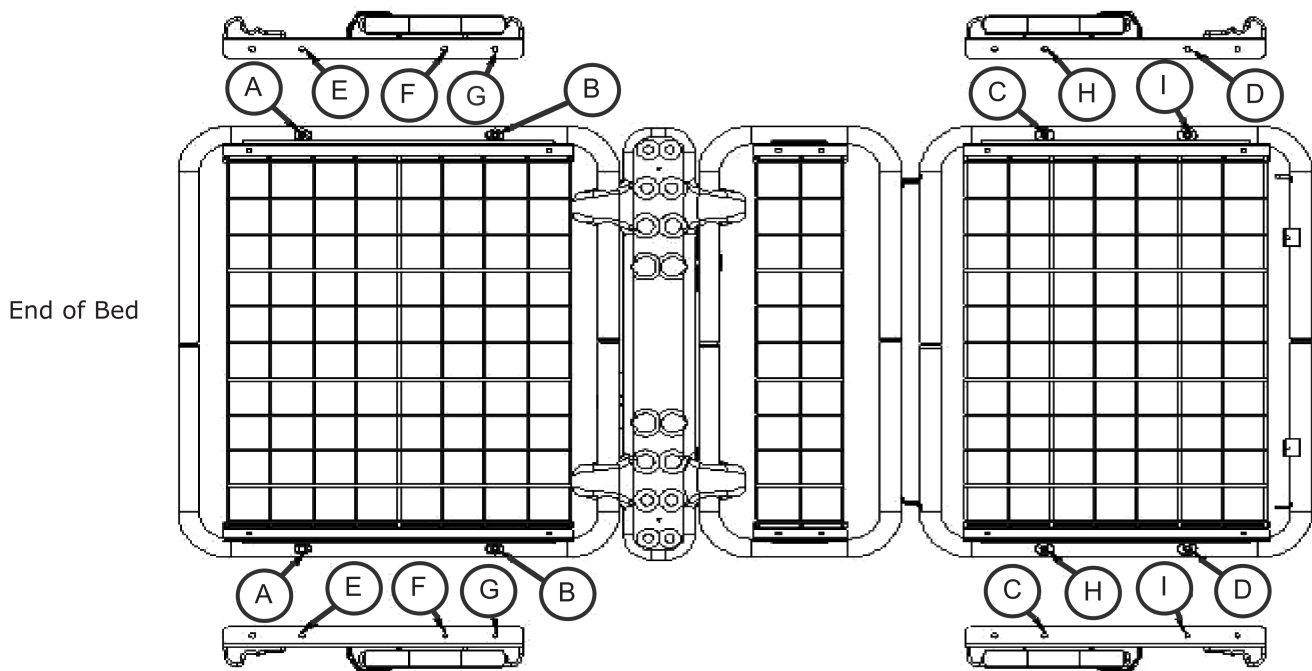

Figure 2
1. Determine where you want the assist handle to be mounted (Figure 2).
3. When mounting to an 80" head section, line up holes A & E and holes B & G. For a 76" head section, line up holes A & E and holes B & F. The mounting bracket is attached to the foot section on either 76" or 80" beds using holes C & H and holes I & D (Figure 2). Please note the same mounting bracket is used in all mounting locations listed above.